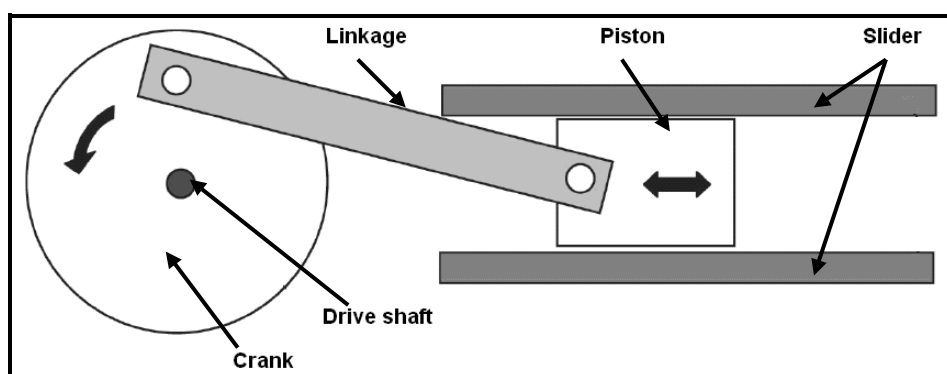

FIGURE 1.5
1.17 What is the purpose of the linkage shown in FIGURE 1.5 below?